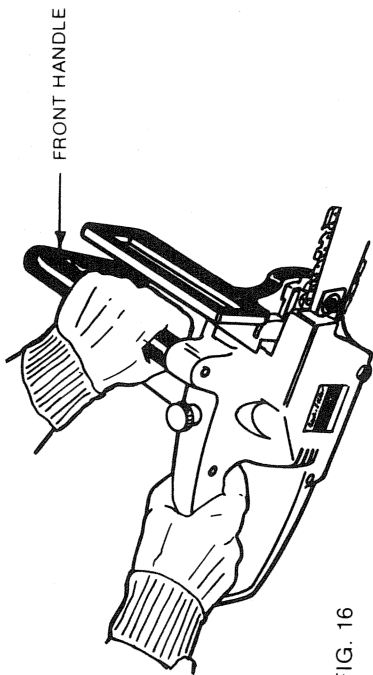

FIG. 16
CAUTION: Hand placement is important. ALWAYS grip front handle directly behind the handguard/chain brake lever (See FIG. 16).
4. With the left hand, hold the front handle (not the CHAIN BRAKE lever) firmly. (FIG. 16)